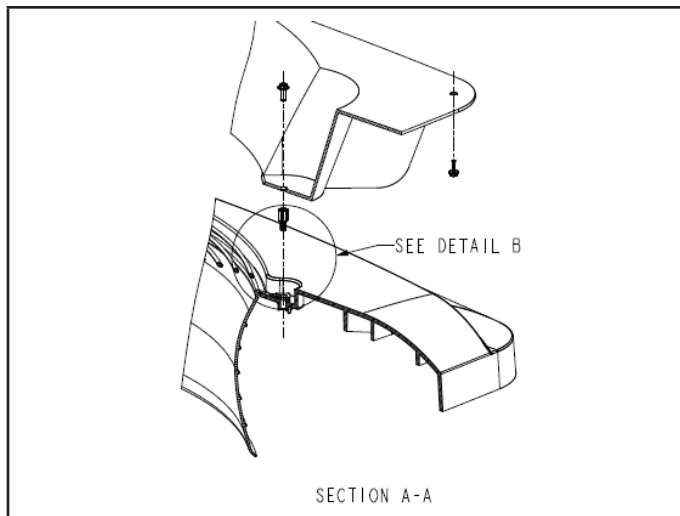

FIGURE 7. Section A-A
- 4 - For units 3 and 4, use (4) 10-32 x .625 screws to attach the snow guard bottom to the snow guard standoffs (figures 7 and 8). Tighten screws to 25in-lbs torque.
- 5 - For unit 2, use (4) 10-32 x .5 screws to attach the snow guard bottom to the snow guard standoffs (figures 7 and 8). Tighten screws to 25in-lbs torque.